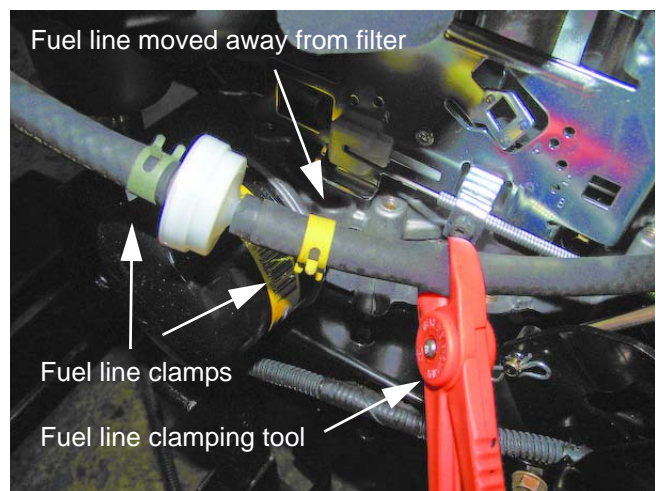

Figure 9.7
1. Clamp off the fuel lines to prevent fuel from leaking when the lines are disconnected. See Figure 9.7.